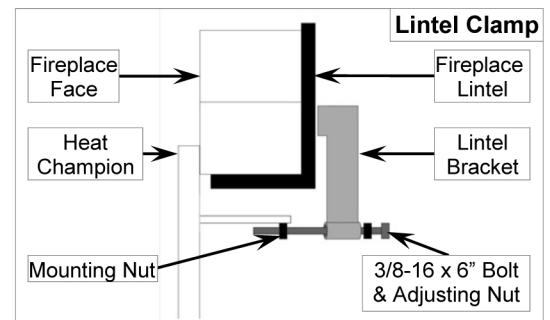

Figure 2
- Assemble the Lintel Clamps by threading an adjusting nut onto each 6" bolt and adding the Lintel Bracket. (Figure 2)